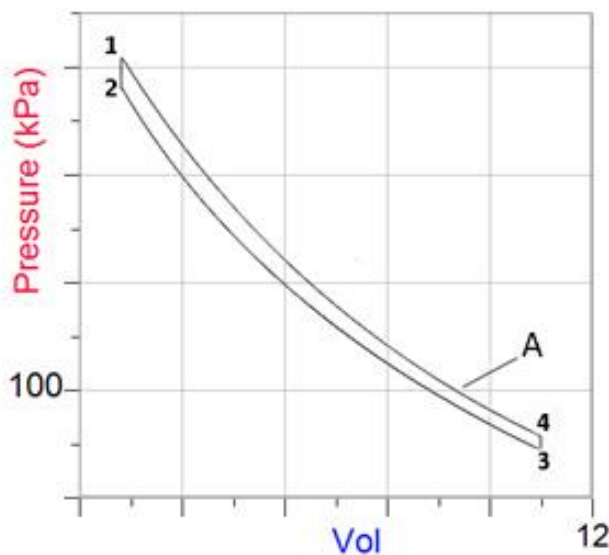
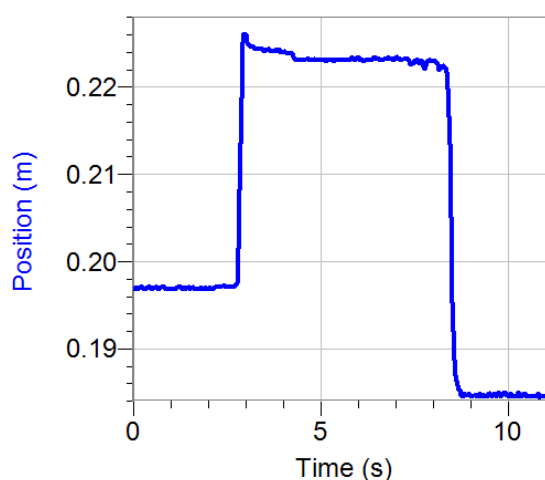

Fig 3 - The cycle shown in figure 2 redrawn as a diagram.
Fig 4 - The position–time plot.
- d What two points in figure 3 lie on the same isotherm?
- e The low-pressure end of the loop in figure 2 is a close approximation to the idealized diagram (figure 3). The high-pressure end is not. Look carefully at figure 4 below and suggest a reason for the difference.